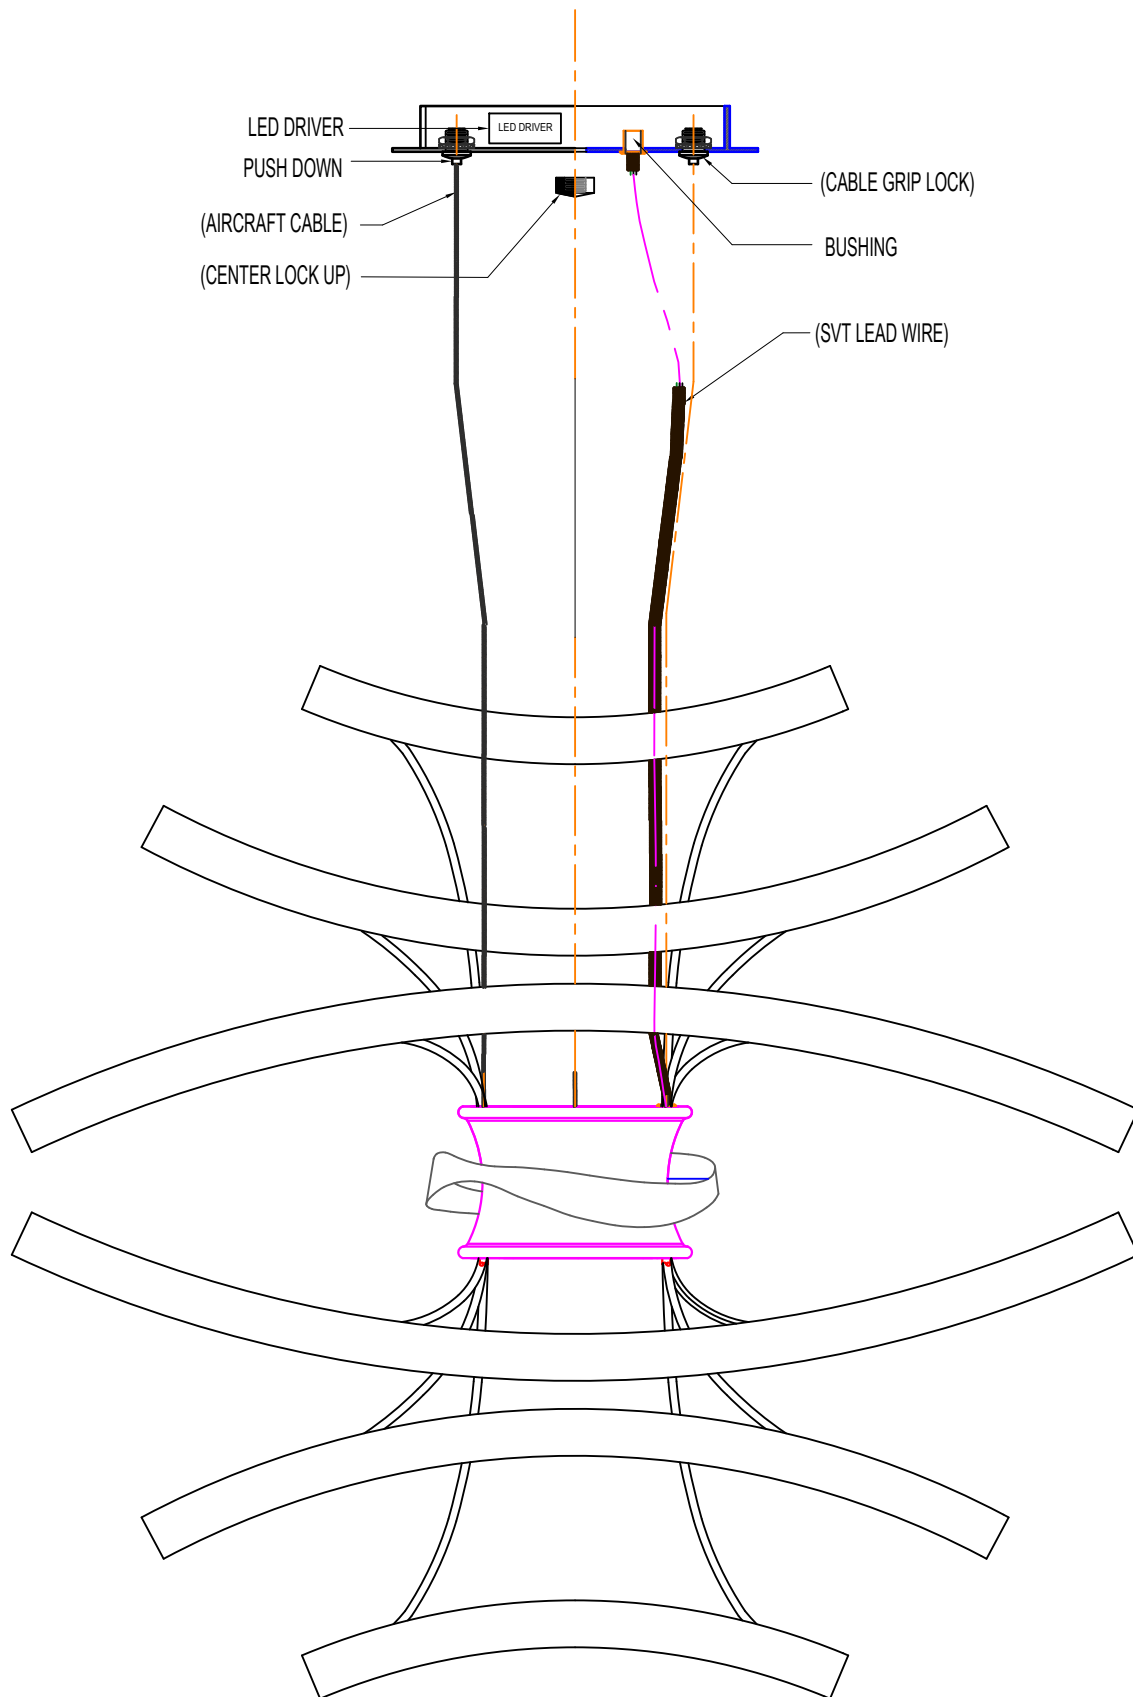

FIGURE-3
3. To change the drop height based on your desired height, push the tab down on the grip post either pull or push the aircraft cable. Repeat this to all aircraft cable until the fixture is level and with the desired height. (Refer to Figure-3)
4. Adjust the SVT wire base on the desired height. Pull/push the SVT wire to the bushing and leave 8" lead and ground wire above the canopy and cut the excess wire. (Refer to Figure-3)
2. Identify Fixture B, place the glass on the top of fixture. Refer to Figure-3.